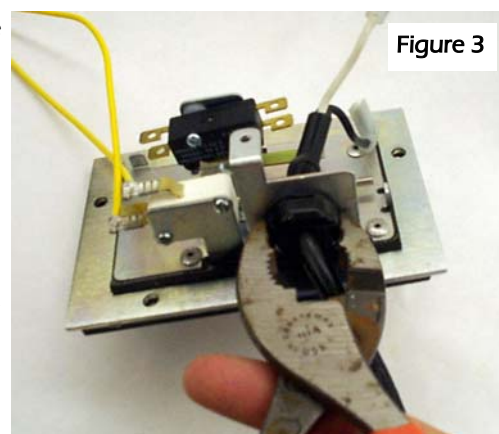

Figure 3
3. Grasp the Heyco strain relief and pull it from the switch/float assembly. (Figure 3)
6. Reinstall the Heyco strain relief onto the new switch/float assembly and secure the switch cover. (Figure 3 & 1)